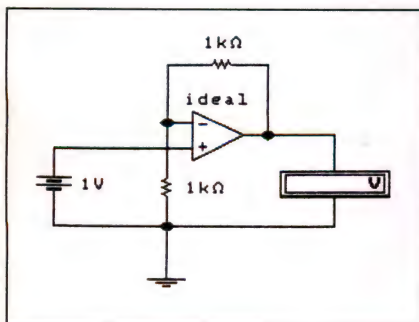

Fig. 5.11 Non-inverting amplifier circuit (Assignment 5.1).
1. Connect the non-inverting amplifier circuit shown in Fig. 5.11. Check that the
- Finally, return to the circuit of Fig. 5.11 with $V_{IN} = 1\text{V}$. Choose a value for R_F that will produce an output voltage of 10V (i.e., a voltage gain of exactly 10). Check that the circuit works and note down the value of R_F used.